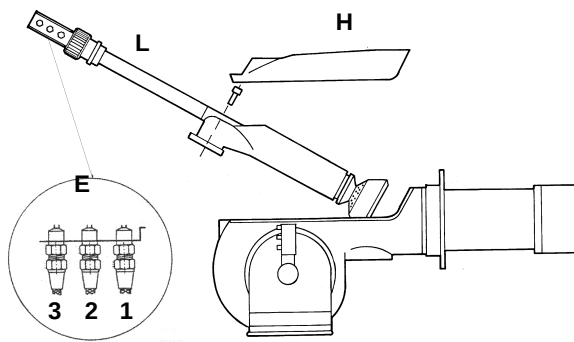

Fig. 22
- Remove, clean and check the combustion head (see Fig. 22).
- 3 unscrew the revolving connectors (E in Fig. 22) on the fuel pipes (use 2 spanners to avoid loosening the connections attached to the distributor block)loosen the screw VRT to free the threaded rod AR, then screw out the 2 screws V holding the washer R and the screw VRT in position
- 4 remove the whole assembly as shown in Fig. 22